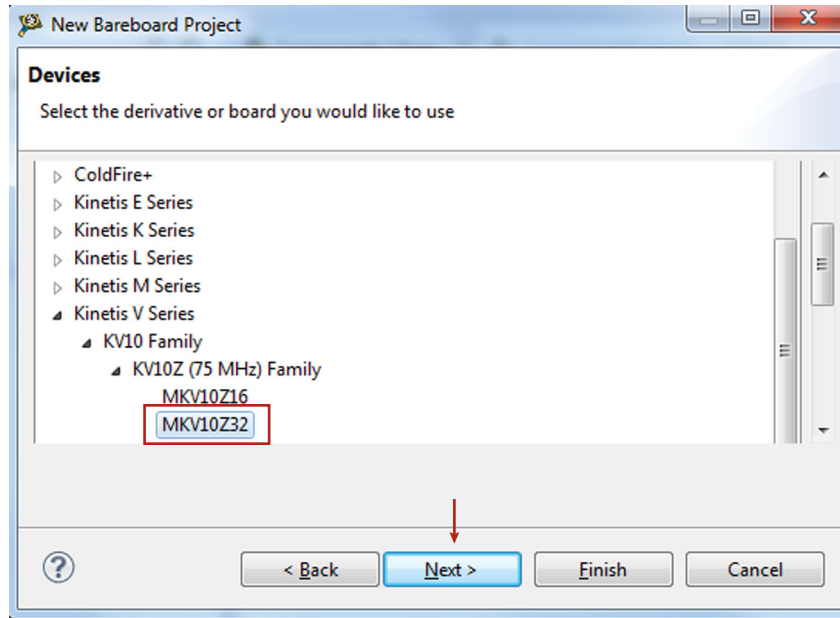

Figure 24. Select MCU
2. In the **Devices** dialog box, select which MCU the project uses. The example in Figure 24 uses the MKV10Z32.